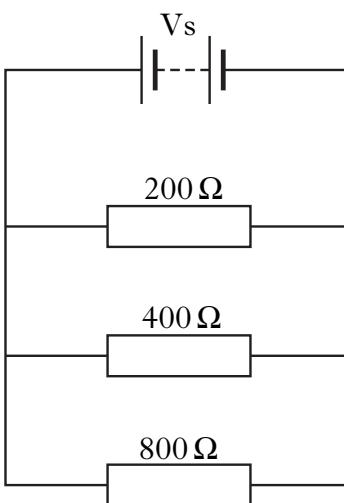

Figure Q5(a)
5. An electrical circuit is shown in Figure Q5(a).